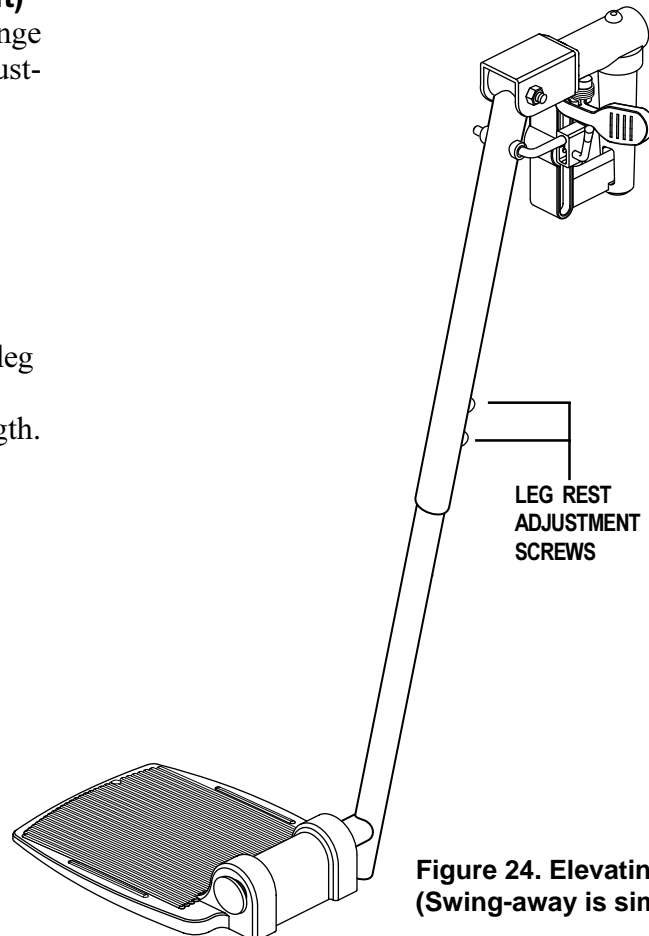

Figure 24. Elevating Leg Rests (Swing-away is similar.)
1. Remove the two screws from the side of each leg rest extension. See figure 24.